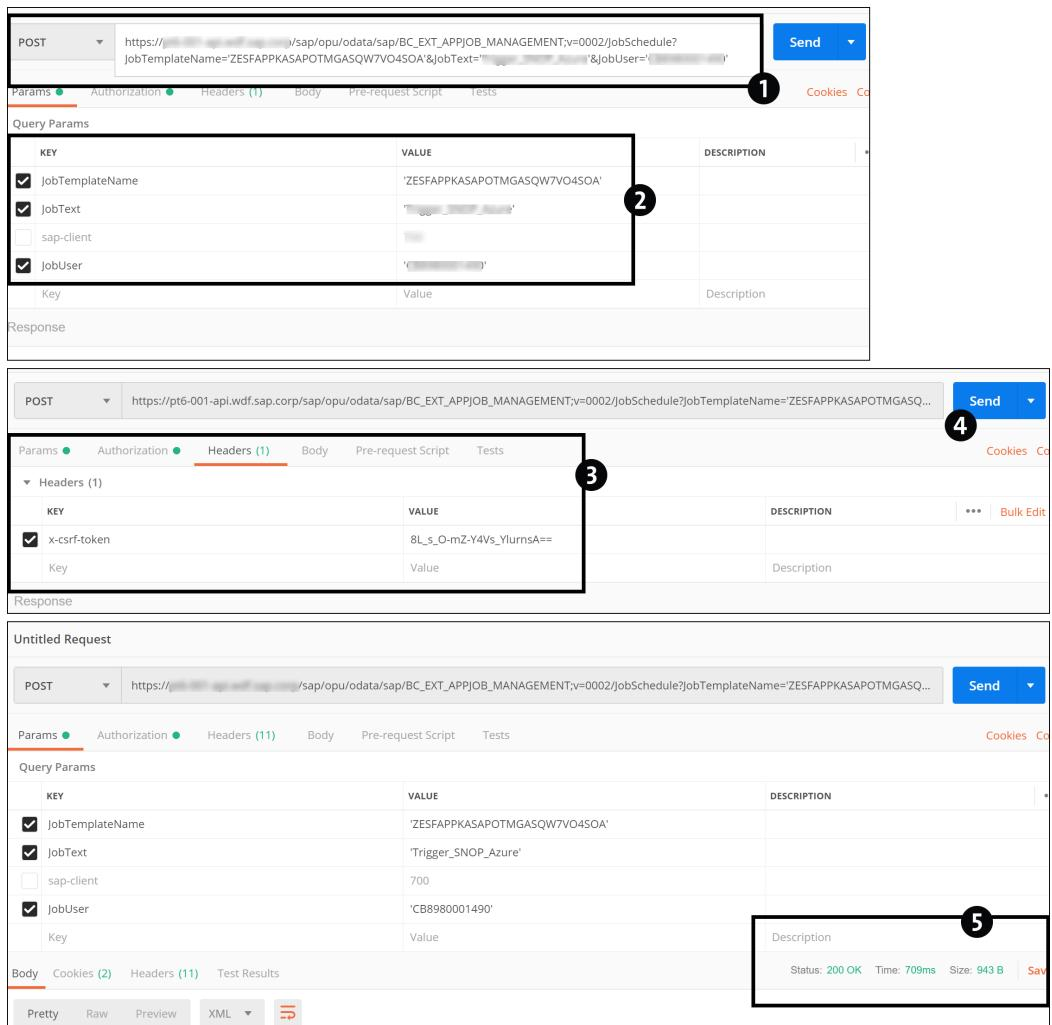

Figure 7.10 Executing the Post Method in Postman
- ❶ Select the **GET** method, and insert the service URL along with “/JobTemplateSet” concatenated at the end of the service URL.
- ❷ Navigate to the **Headers** tab, and enter the key value for **x-csrf-token** as **Fetch**. In the **Authorization** tab, enter the **Communication User Name** and **Password**.
- ❸ Click on the **Send** button.
- ❹ The result of the output is shown in the **Status** section.
- ❺ Navigate to the **Headers** tab of the **Result** area. Note down the **x-csrf-token**.
4. In the Postman tool, use the Post method to execute the application job template in SAP IBP. Figure 7.10 shows the following steps for executing the Post method in Postman:
- ❶ Select the Post method, and input the service URL in the following format: